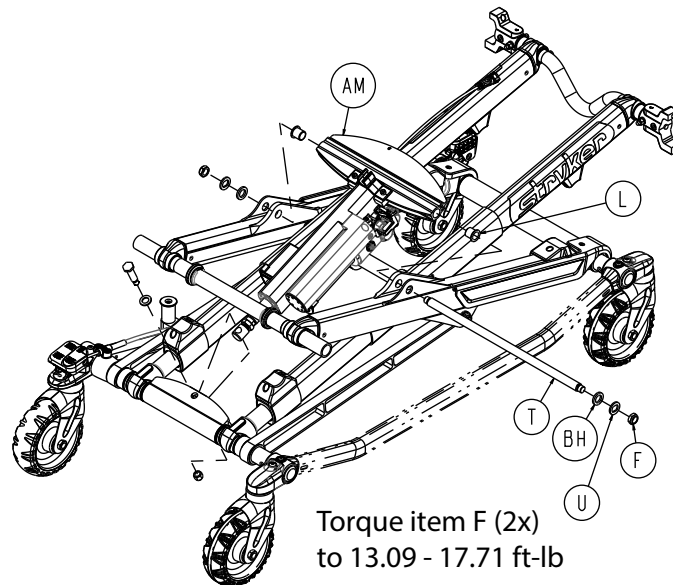

Figure 107 – Lift assembly components
10. Using two 3/4" combination wrenches, remove the Nylock hex nut (F), D washer (U), and washer (BH) (Figure 107). Save all parts.
11. Using a small punch, push the stiffener bar cross tube (T) through the HBC strain gauge external cable assembly (AM) (Figure 107). Remove and save stiffener bar cross tube and flange bearings (L).